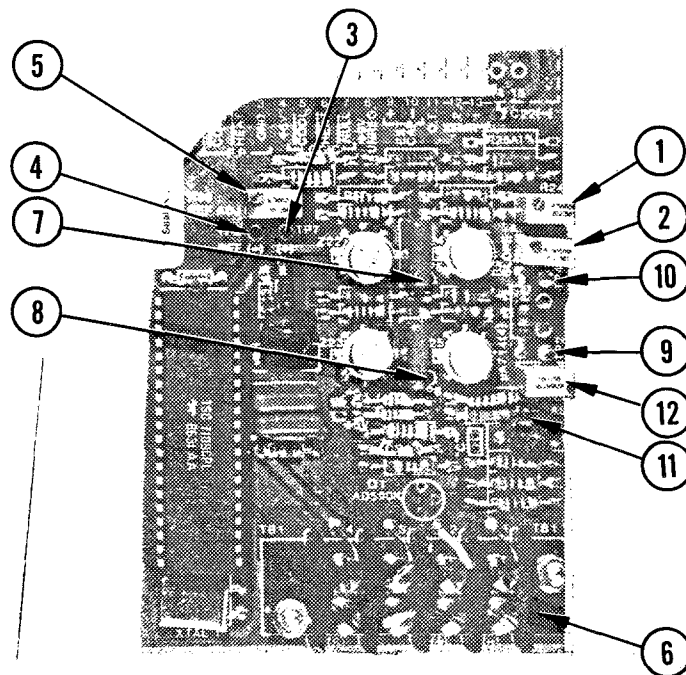

Figure 3-3: Controller Calibration Points.
5. Adjust ambient potentiometer R24 (Figure 3-3, Item 1) until the PROCESS display reading matches that of the calibrator.
3. Adjust ambient potentiometer R24 (Figure 3-3, Item 1) until the PROCESS display reading matches that of the current source.
3. Adjust ambient potentiometer R24 (Figure 3-3, Item 1) until the PROCESS display reading matches that specified on the Calibration Parameters Sheet.
1. Connect the voltmeter to TP7 (positive) and TP8 (negative) on the controller PCB (Figure 3-3, Items 3 & 4).
1. Short the thermocouple input by placing a jumper across either TB1 (Figure 3-3 Item 6) pins 2 and 3 or TP5 and TP6 (Items 7 and 8) on the controller board.